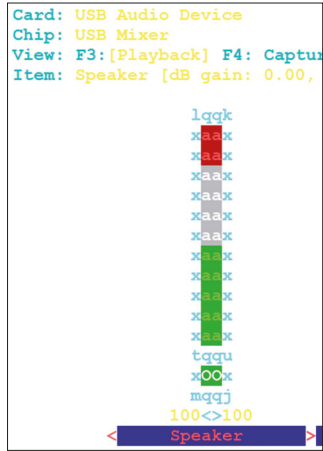

Figure 5.6: Maximum speaker volume setting.
- Click on the column **Speaker** and use the up-down arrow keys to increase/decrease the speaker volume. Figure 5.6 shows the maximum volume setting.